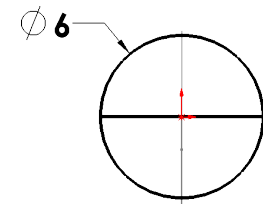

Fig. 10
Step 7. Click **Smart Dimension**  (S) on the Sketch toolbar.
Step 8. Dimension **diameter 6**, **Fig. 10**.